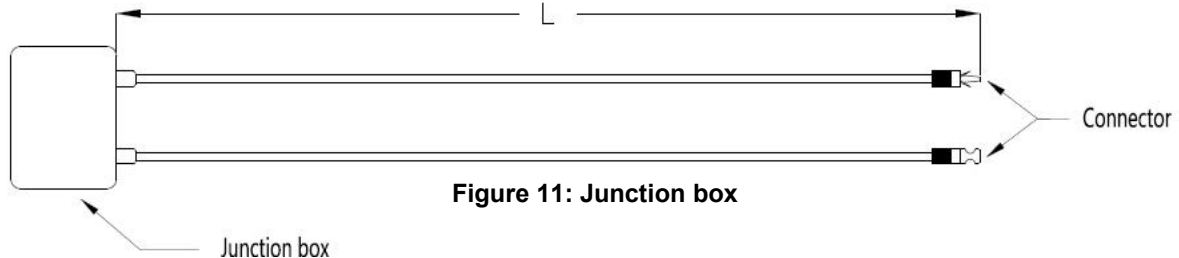

**Figure 10: The graph of Grounding**
- e) All module frames and mounting racks must be properly grounded in accordance with local and national electrical codes. Attach the equipment grounding conductor to the module frame using the hole and hardware provided. Note that a stainless steel star washer is used between the ground wire and module frame (see Figure 10 below).This washer is used to avoid corrosion due to dissimilar metals. Tighten the screw securely.